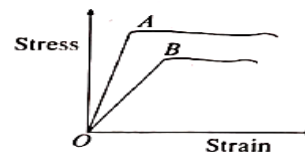

Fig. 18.16
Q.18. In Fig. 18.16, which material is more ductile?
Q.19. In Fig. 18.16, which material is more brittle?